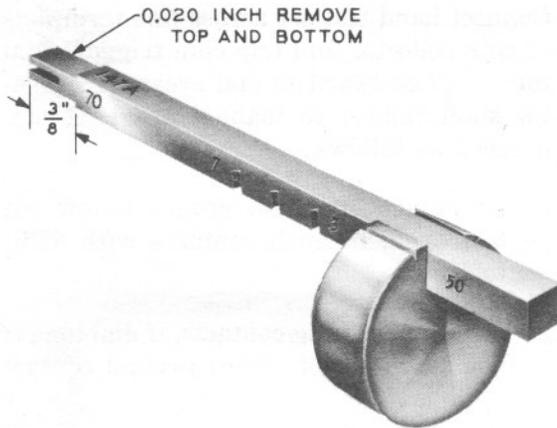

Fig. 6 - 147A Gauge
4.06 With the armature and trap fully operated manually, permit trap to restore slowly by using a KS-14995 coin collector tool inserted through hopper throat. Trap, vane, and relay shall restore fully to their nonoperated positions against a torque of 70 gram-inches applied to relay operating arm with a 147A gauge (see Fig. 6 and 7). Test should be made three times for each direction of operation as follows: